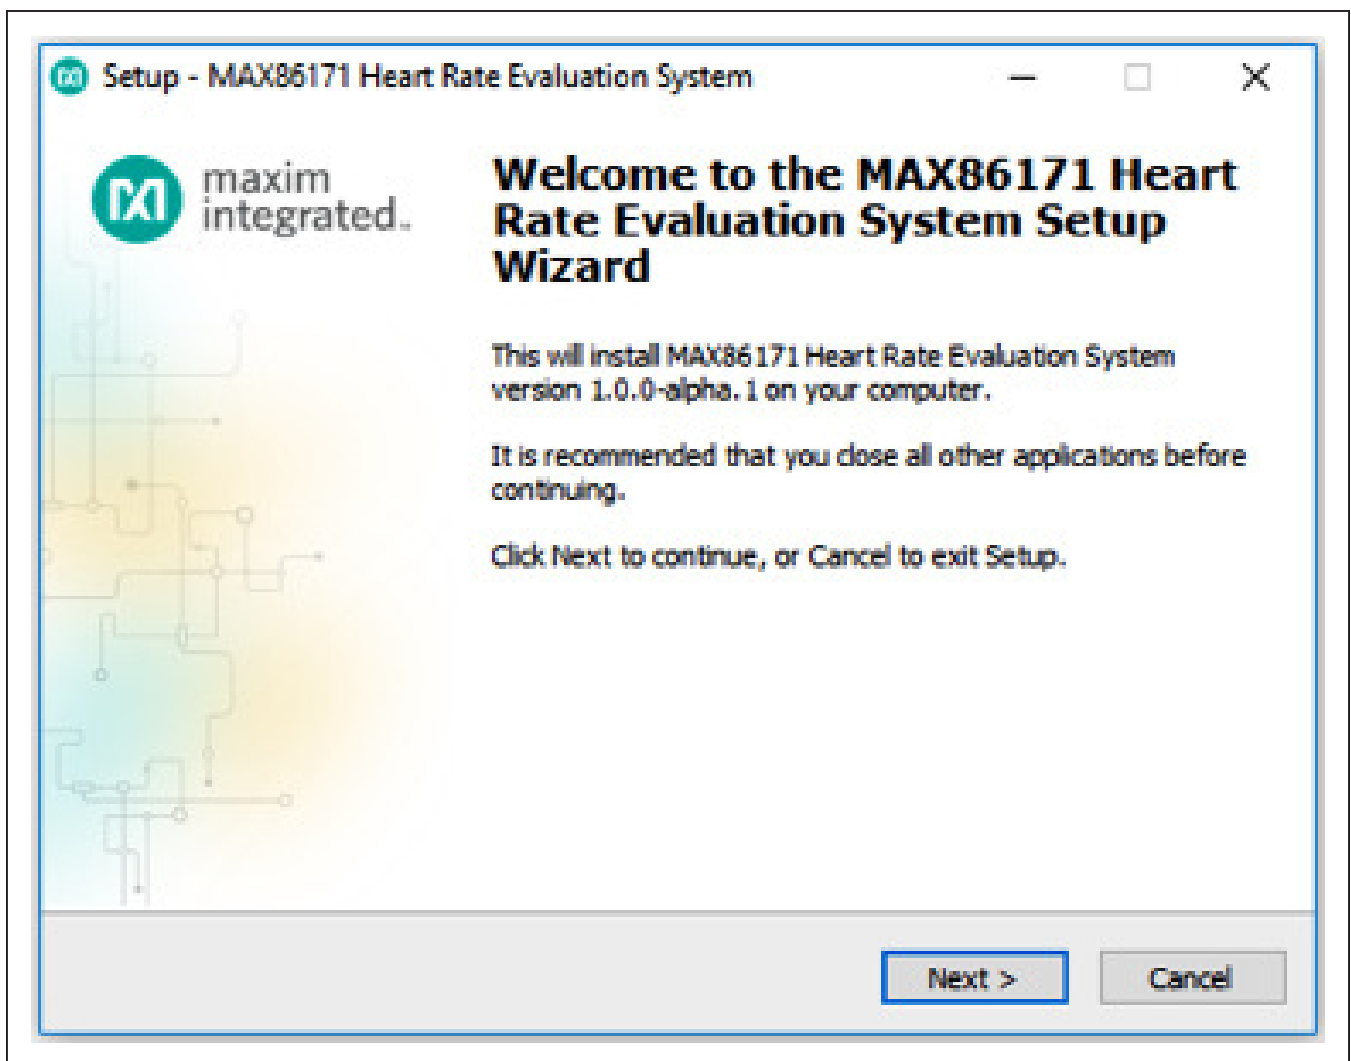
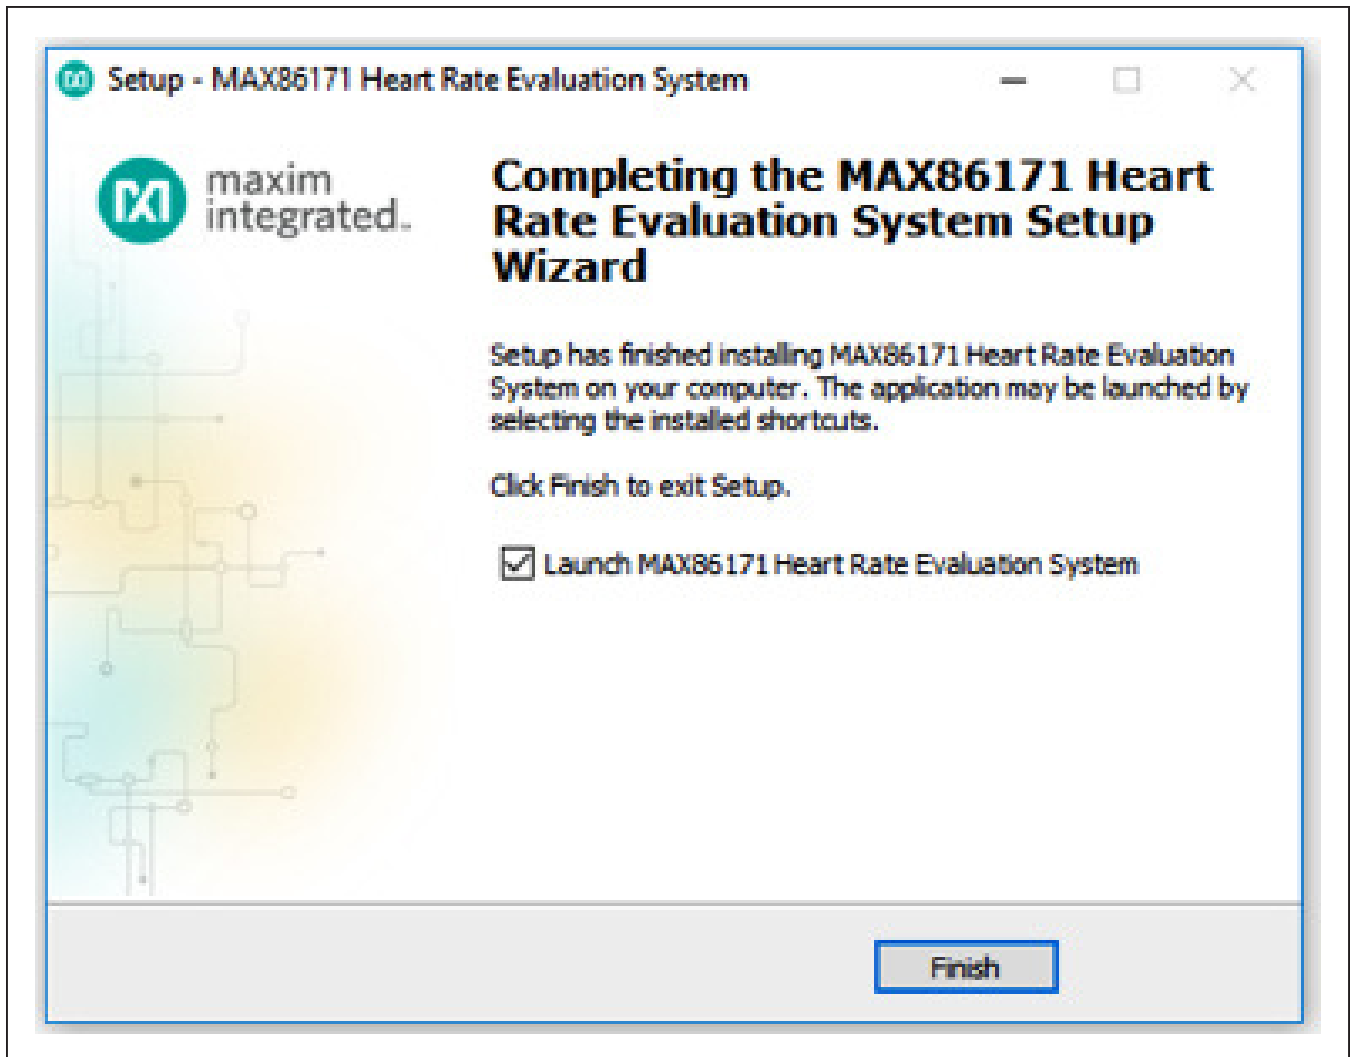

Figure 1. Setup MAX86171 EV Sys GUI Software Step 1
Figure 7. Setup MAX86171 EV Sys GUI Software Step 7
- 3) Open up MAX86171GUISetupVxxx.exe and follow the instructions from the pop-up windows, as shown in Figure 1 to Figure 7.